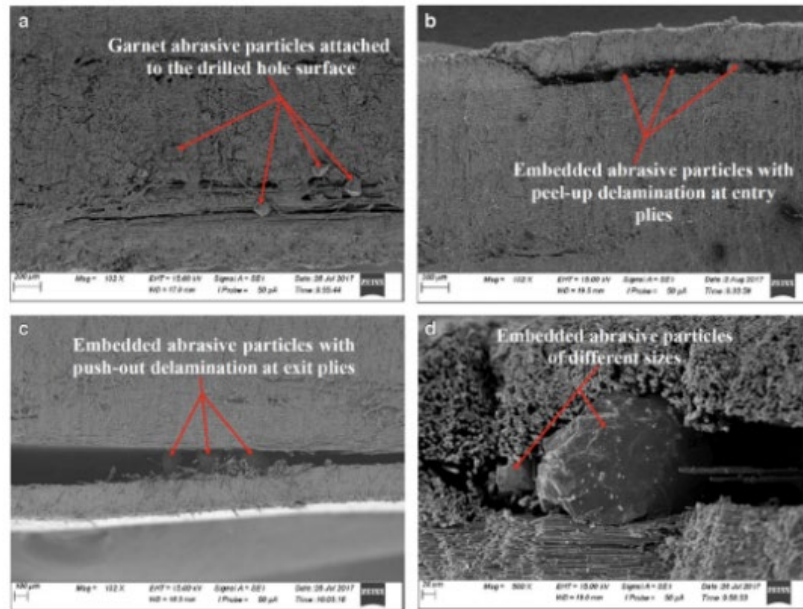

Figure 2
2. [a] Abrasive-water jet (AWJ) cutting is an intricate procedure that is exemplified by several process parameters that decide quality and efficiency of the whole process. Figure 2 shows the common defect (embedded abrasives) at the drilled hole wall on carbon fiber reinforced polymer (CFRP) composite samples when drilled using AWJ technique. Based on your judgement, is AWJ still an efficient technique to cut the laminate CFRP composite workpiece? Give TWO (2) reasons to justify your answer.